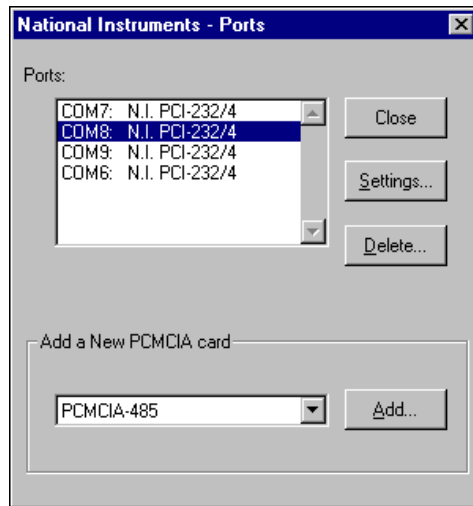

Figure 2-10. niports Configuration Utility
1. Select **Start»Settings»Control Panel** and double-click the **niports** icon. A list of installed National Instruments ports appears, as shown in Figure 2-10.